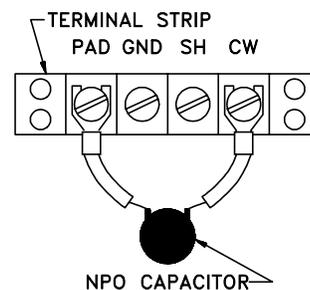

Figure 3-10
- 4) With the material at the upper operating level, adjust the Step and Fine Zero controls until the output is 4 mA. For this calibration procedure, a compensation capacitor is usually required to obtain the minimum 4mA output. It will be added by the factory when the application is known. If needed and not supplied, add-in 100 pF steps: an NPO capacitor across Terminals PAD and CW until the minimum output can be obtained. See Figure 3-10 or call factory service for value.
- 4) For this calibration procedure, a compensation capacitor may be required to obtain the minimum 4 mA output. It will be added by the factory when the application is known. If needed and not supplied, add - in 100 pF steps - an NPO capacitor across Terminals PAD and CW until the minimum output can be obtained. See Figure 3-10 or call factory service for value.
- 4) If 4 mA cannot be obtained, add a padding capacitor equal to or less than 1/4 the full scale capacitance of the probe in the upper phase. This capacitor will be added across Terminals PAD and CW by the factory when the application is known. See Figure 3-10.
5) If 4 mA cannot be obtained, add a padding capacitor equal to or less than 1/4 the full scale capacitance of the probe in the upper phase. This capacitor will be added across Terminals PAD and CW by the factory when the application is known. See Figure 3-10.
5) If 4 mA cannot be obtained, add a padding capacitor equal to or less than 1/4 the full scale capacity of the probe in the lower phase. This capacitor will be added across Terminals Pad and CW by the factory when the application is known. See Figure 3-10.